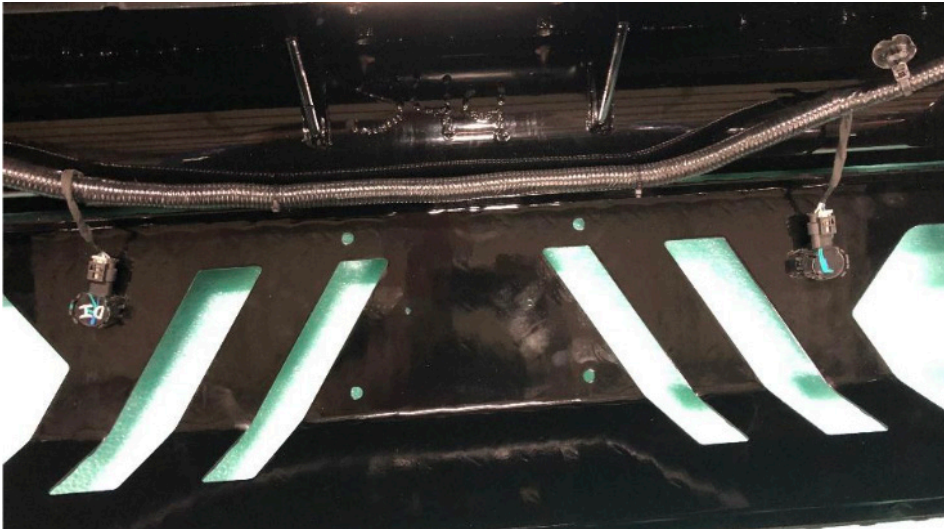

Figure 14
15. Take the sensors, sensor housings and harness and install them into the bumper. Install the sensors by pushing the housings into the sensor holes from the outside of the bumper and connecting the sensors into the housings. Use epoxy (61632) around the housings to keep them in place. Plug the harness into each sensor and the fog lights. (Figure 14)